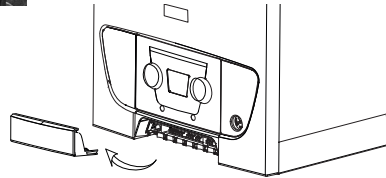

Fig. 25
2. Fully undo the two screws retaining the electrical cover at the bottom of the front panel. Remove the cover (Fig. 25).